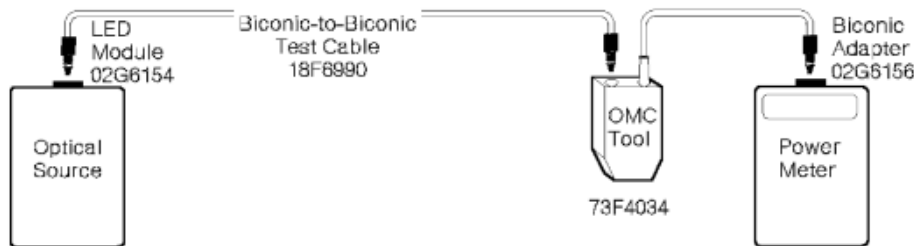

Figure 49. Obtaining **P0** for a multi-mode Link
5. Attach one end of a biconic-to-biconic test cable to the optical source; then attach the other end to the receptacle on the OMC tool (see Figure 49 on page 43).